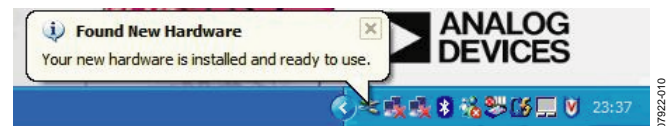

Figure 10. New Hardware Is Ready to Use Message
7. The **Found New Hardware** message appears, alerting the user that the hardware is installed and ready to use (see Figure 10).